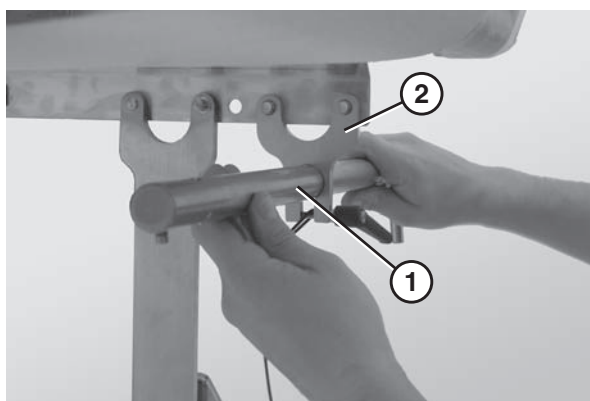

Figure 27
2. Slide the notched end of the scraper shaft (Figure 27, item 1) through the adjustment plate (Figure 27, item 2).